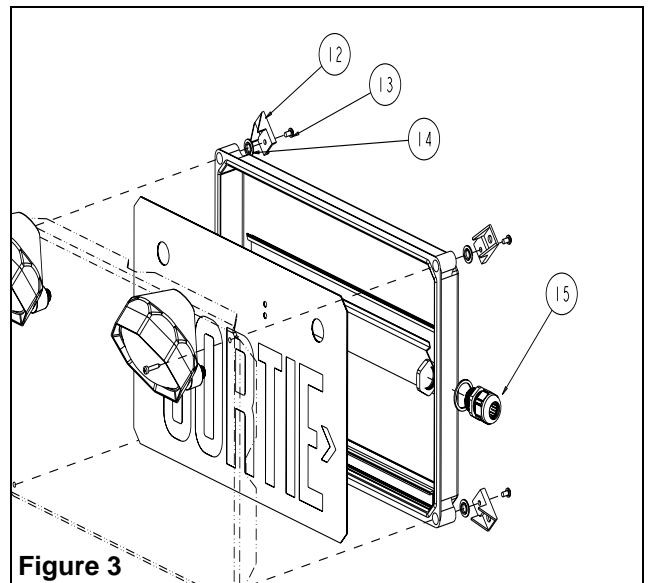

Figure 3
2. Install the four plastic mounting brackets (see Fig.3). Use the plastic spacers between the housing and the bracket and tighten using the provided 10-32 x 3/8" screws.